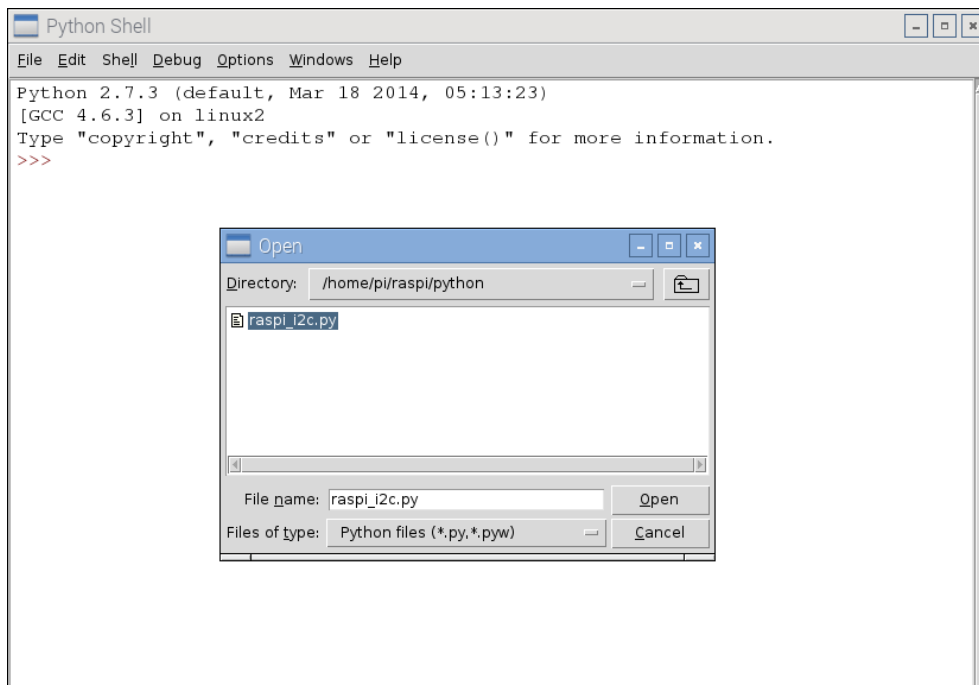

Figure 9.2. Load the I2C Expander GUI
2. Load the I2C Expander GUI by opening `/home/pi/raspi/python/raspi_i2c.py` from Python Shell (Figure 9.2).